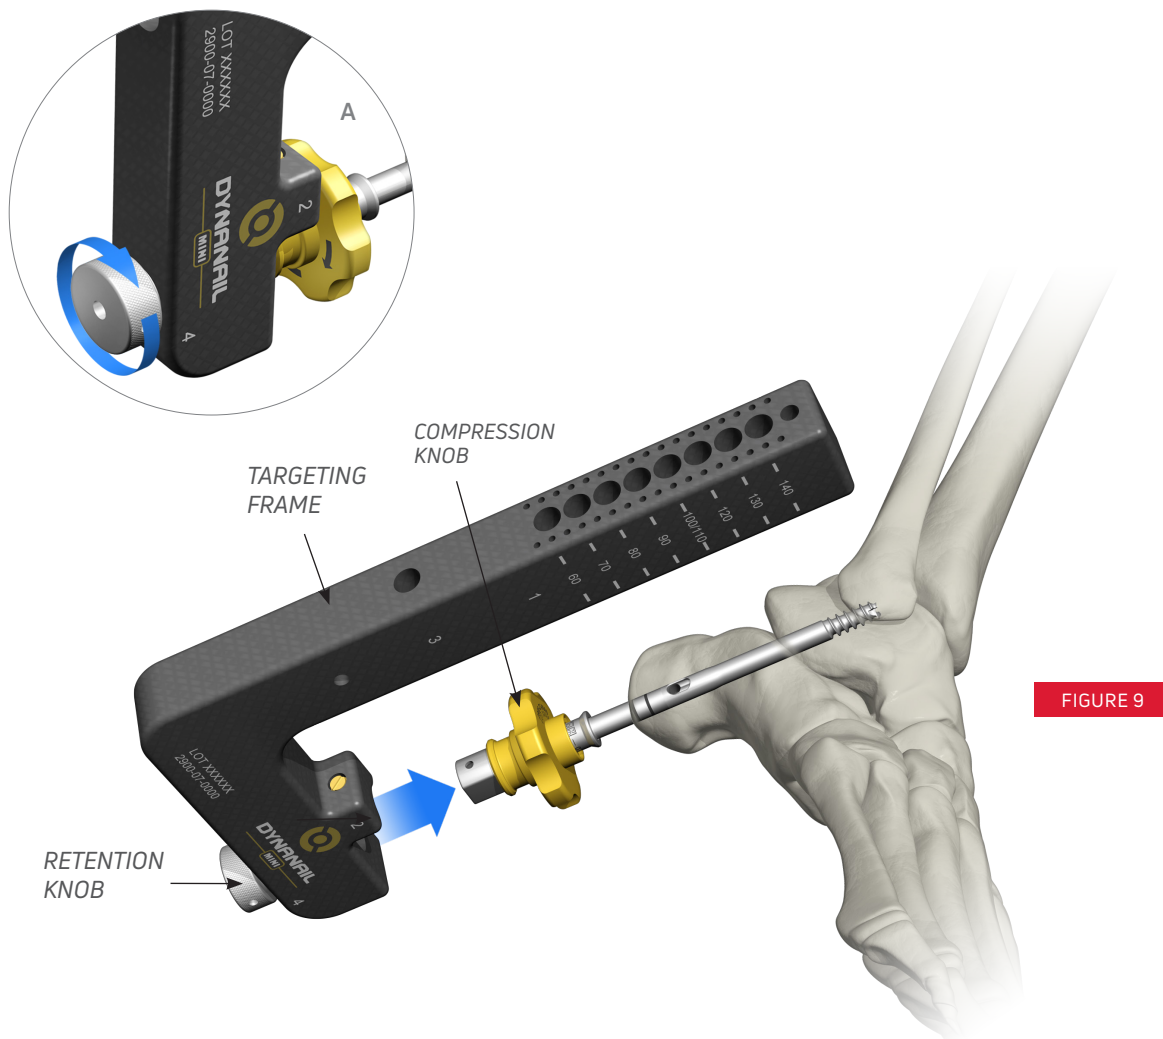

FIGURE 9
Remove the Blue Handle Ratchet Driver and attach the DynaNail Hybrid™ Implant Assembly onto the Targeting Frame (FIGURE 9). Turn the Retention Knob clockwise to securely tighten (A).